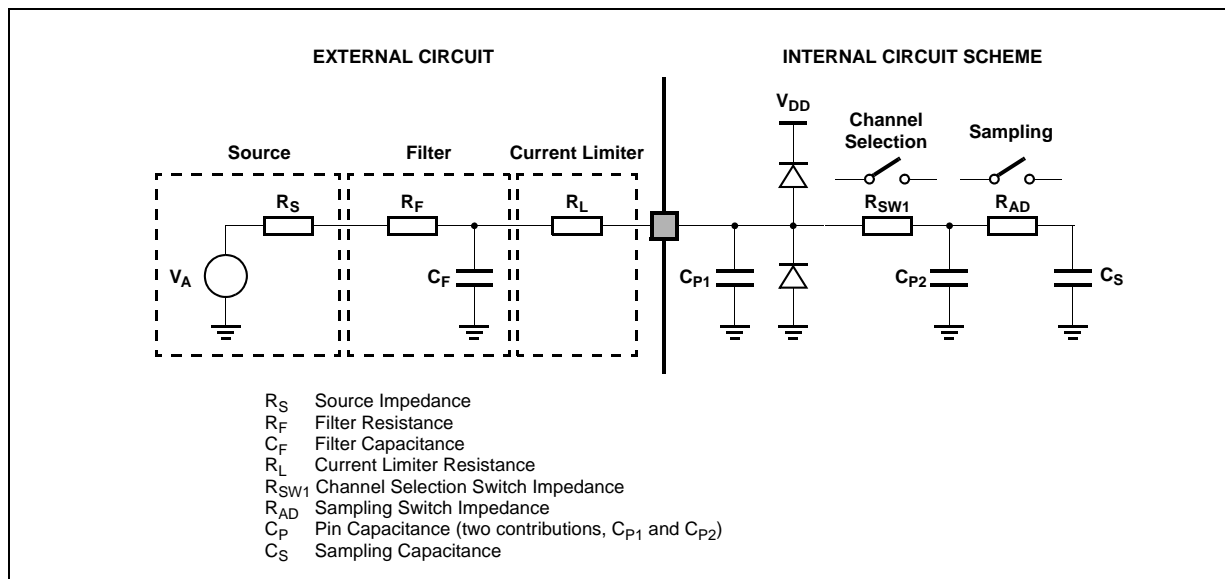

Figure 10. Input equivalent circuit
A second aspect involving the capacitance network shall be considered. Assuming the three capacitances C_F , C_{P1} , and C_{P2} are initially charged at the source voltage V_A (please see the equivalent circuit in Figure 10): A charge sharing phenomenon is installed when the sampling phase is started (A/D switch is closed).
- ⁵ See Figure 10.